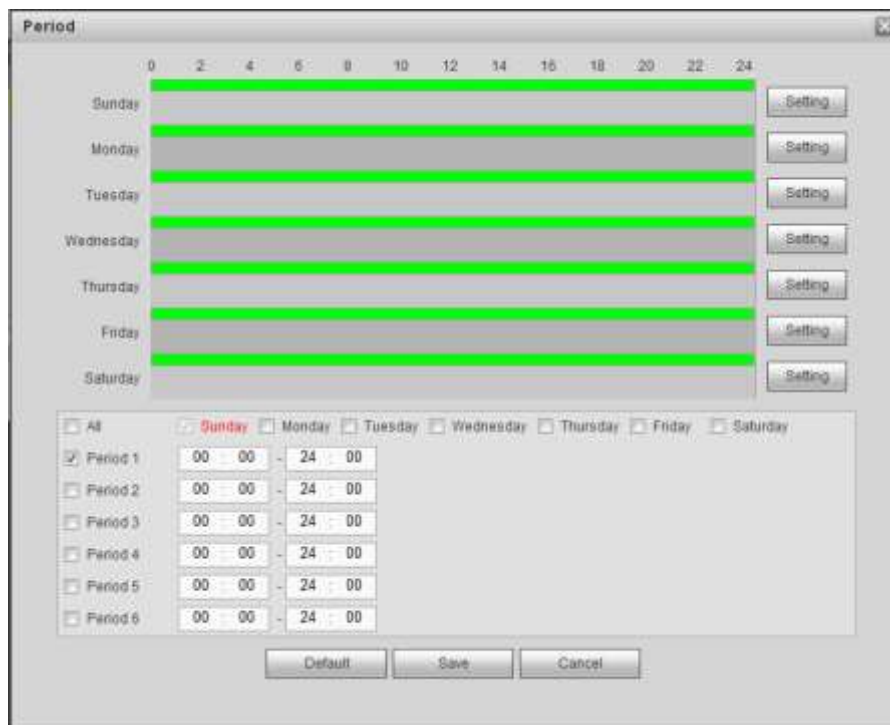

Figure 5-130
Step 3 Click the Set button after the period. It is to set valid period to use current account. See Figure 5-130.